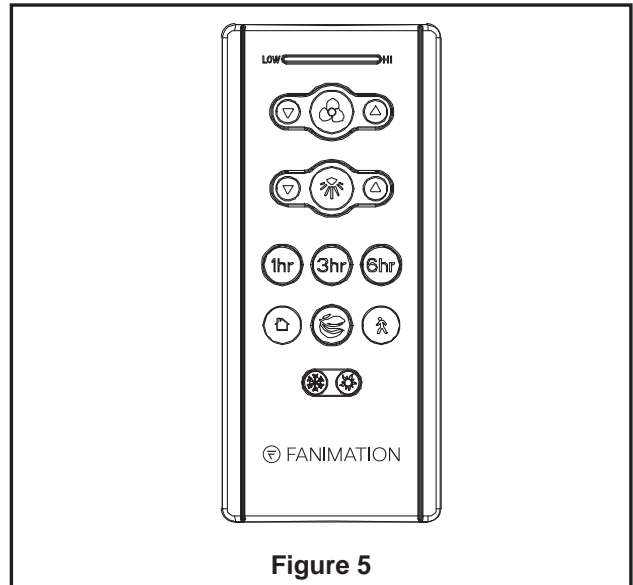

Figure 5
4. After connections have been made, taking care not to pinch the wires, put the white and green leads to one side and the black leads towards the other side. The wires should be spread apart with the grounded conductor and the equipment-grounding conductor on one side of the outlet box and the ungrounded conductor on the other side. (Figure 5)
### 5. Remote functions: (Figure 5)